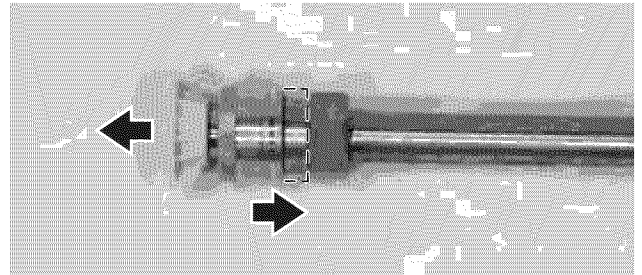

Figure 70 – Spray Tip Removal
3. Remove the spray tip from the end of the nozzle extension (see Figure 70).